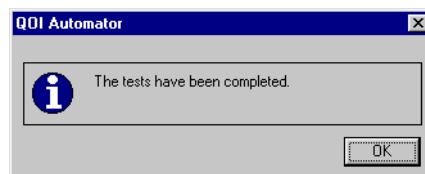

Figure 4-20: Tests Completed Message
7. Upon successful completion of the test script, the Tests Completed message box opens (Figure 4-20). Click OK.